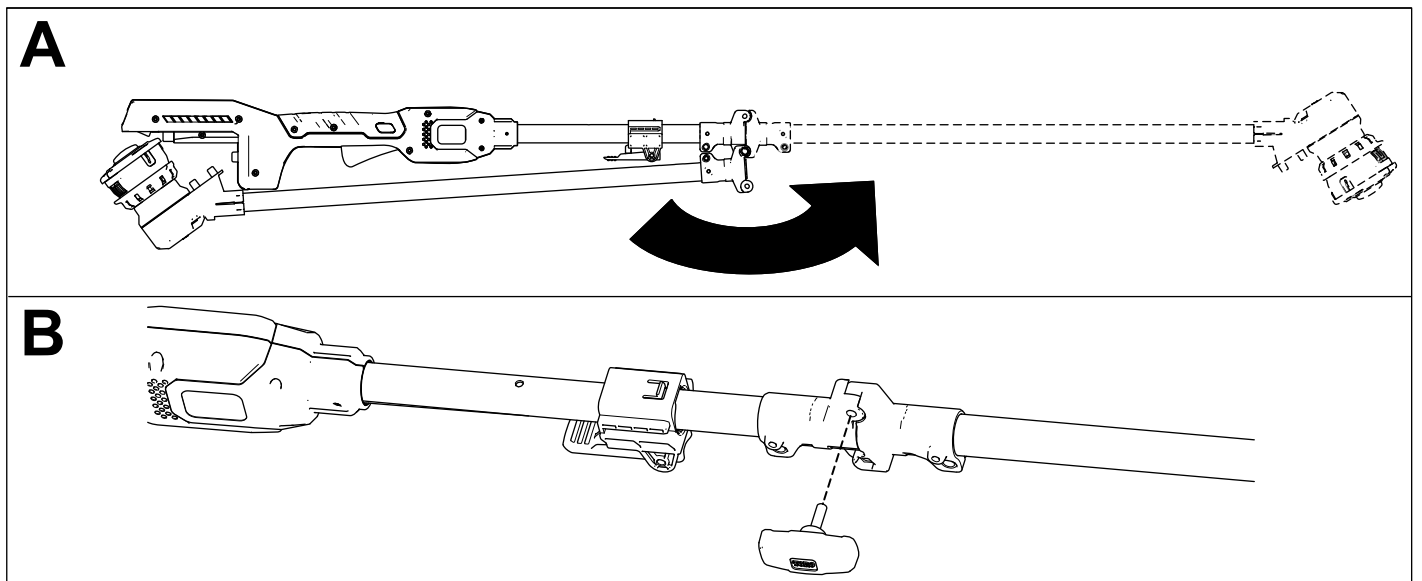

Figure 2
1. Unfold the handle (A of Figure 2).
2. Install the connector knob to secure the handle (B of Figure 2).